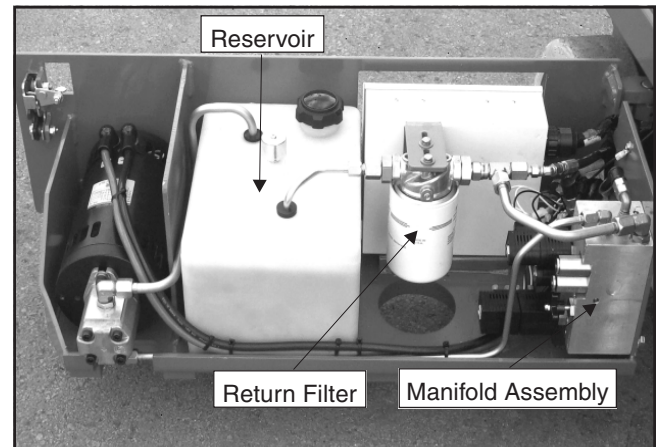

Figure 7.2—Hydraulic Tray
The return filter cartridge (figure 7.2) should be changed after the first 50 hours of operation; thereafter, change during every 90-day maintenance routine or when the system is flushed. If the machine is operated in a dirty environment, the filter should be changed more often. The part number is listed in the Parts Manual.
2. Open the drain plug in the bottom of the reservoir (figure 7.2) and allow the fluid to drain completely. Disposal of the old fluid must be in compliance with all local laws and regulations.
3. Wipe clean the top of the reservoir, filler cap, and return filter (figure 7.2).